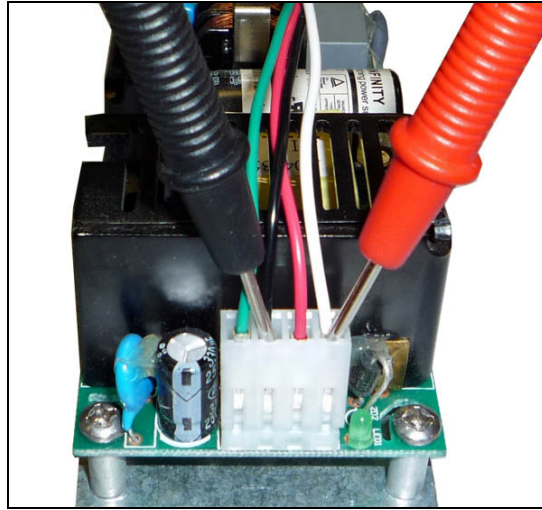

Fig. 3
3. Set the multi-meter to read DC voltage and take a reading between pins 1 (white) and 3 (black) (Fig. 3). The leads must be in contact with the pin in the plastic connector to get a proper reading. There should be approximately 12 volts DC.